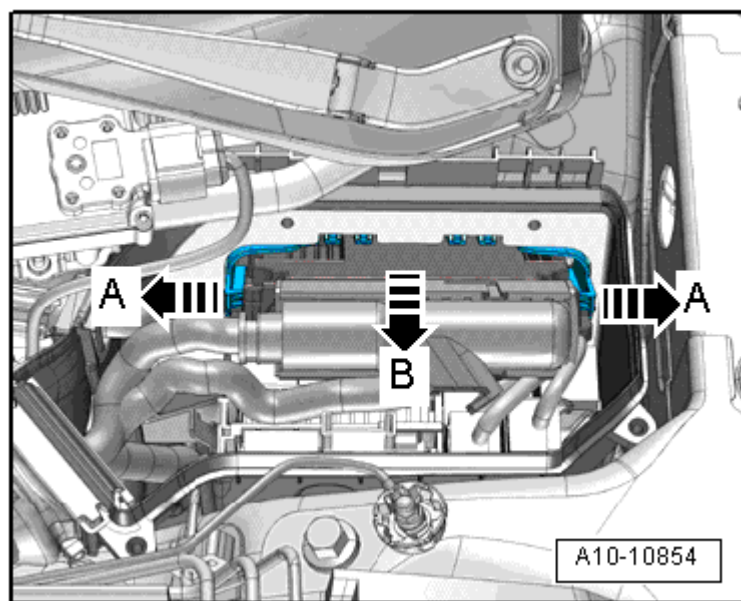

Fig. 5: Identifying Engine Control Module (ECM)
- Component location, refer to **Fig. 5**